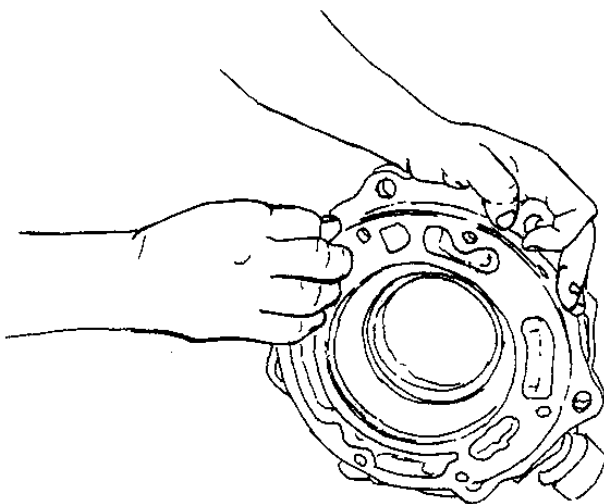

Figure 11 Install New O-ring
17. Install new o-ring onto the groove along the input cage outside diameter. Prelube with SAE 50 synthetic oil (Figure 11).